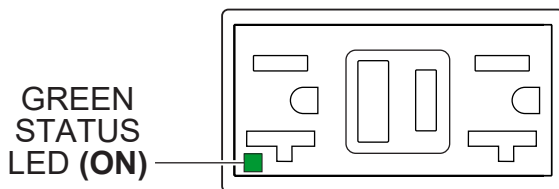

Figure 63. GFCI Receptacle (ON)
3. Verify that the status LED on the corresponding GFCI receptacle (Figure 63) is **ON (GREEN)**.